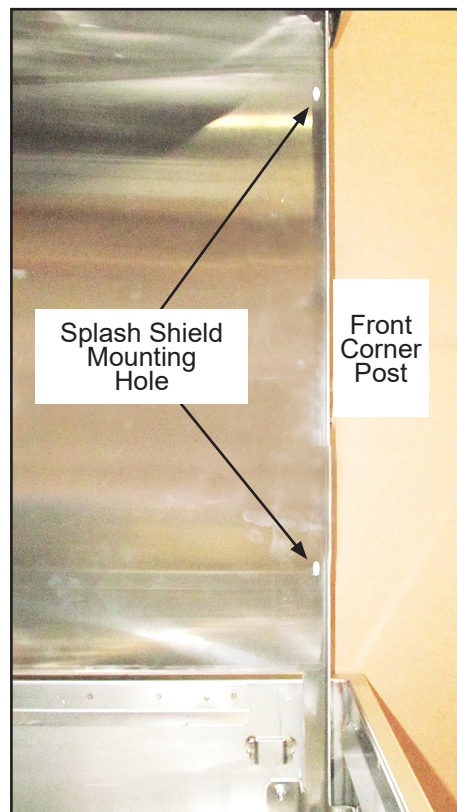

Fig. 6
7. Locate the mounting holes on the right-hand front corner, (Fig. 6).